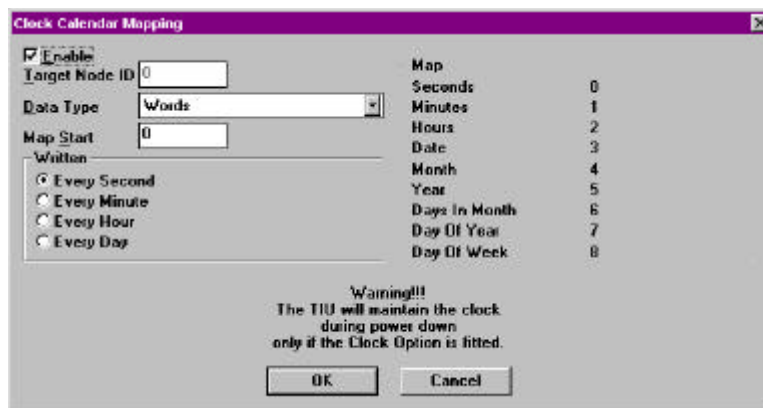

Figure 4.14 – Clock Calendar Mapping
3. The mapping is displayed in the **Map** field (see Figure 4.14).